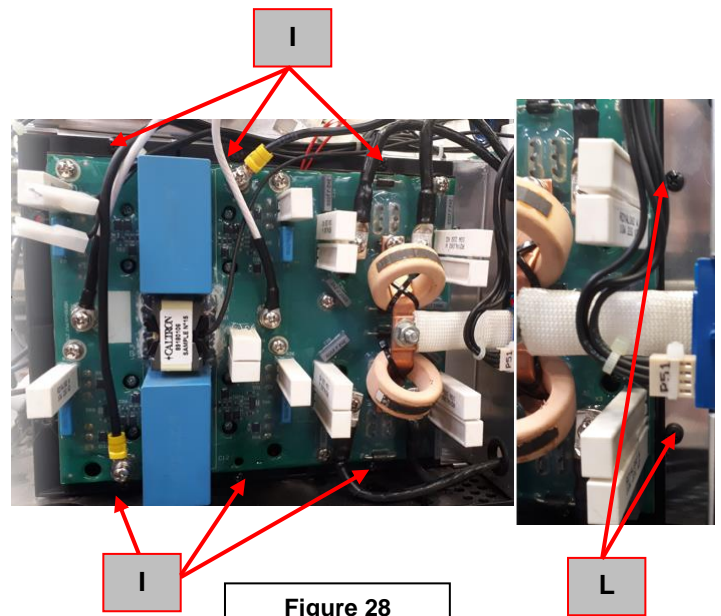

Figure 28
8. Using the PH02 screwdriver remove the 6 screws (I) and the 2 screws (L). See **Figure 28**